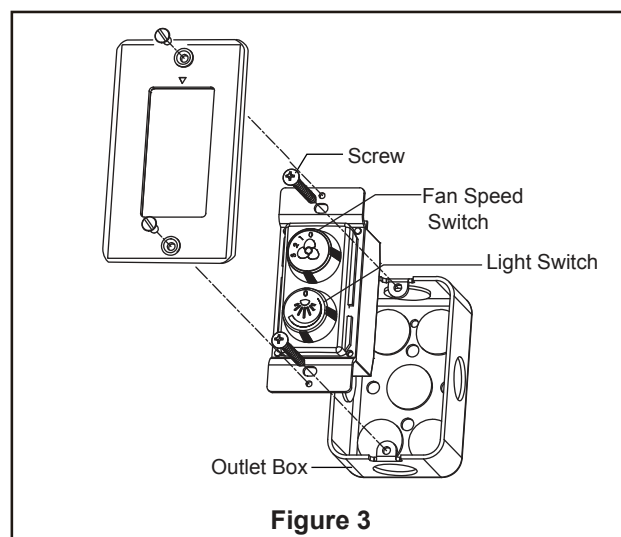

Figure 3
- 5 Secure the wall-mounted control to the outlet box with two screws provided. Then, the face plate attaches the wall control with two painted screws. (Figure 3)